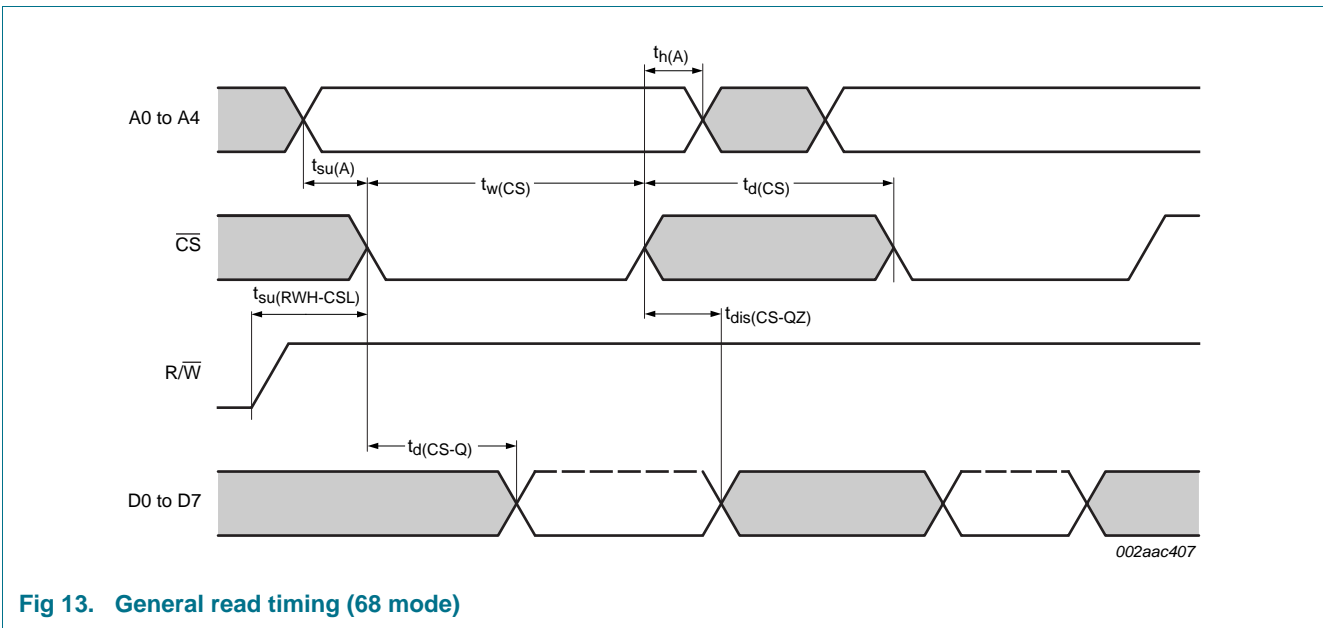

Fig 13. General read timing (68 mode)
- (2) $\overline{\text{CS}}$ timing during a read cycle. See Figure 13.